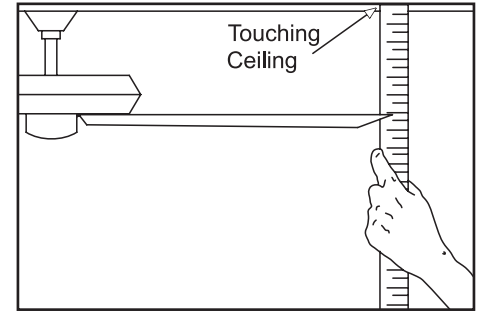

Figure 10
2. Most fan wobble problems are caused when blade levels are unequal. Check this level by selecting a point on the ceiling above the tip of one of the blades. Measure from a point on the center of each blade to the point on the ceiling. Measure this distance as shown in Figure 10. Rotate the fan until the next blade is positioned for measurement. Repeat for each blade. Measurement deviations should be within 1/8". Run the fan for 10 minutes.